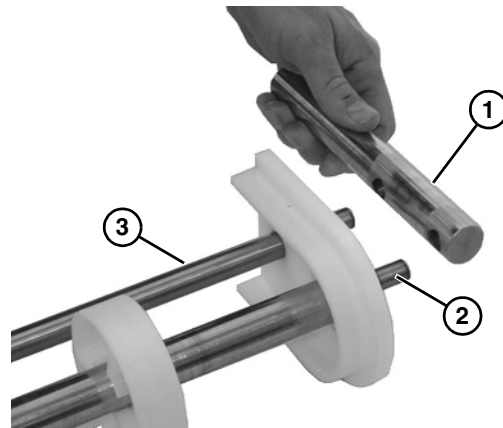

Figure 61
- Remove the bearing end rod (**Figure 61, item 1**) from idler shaft (**Figure 61, item 2**) and pinch guard shaft (**Figure 61, item 3**).